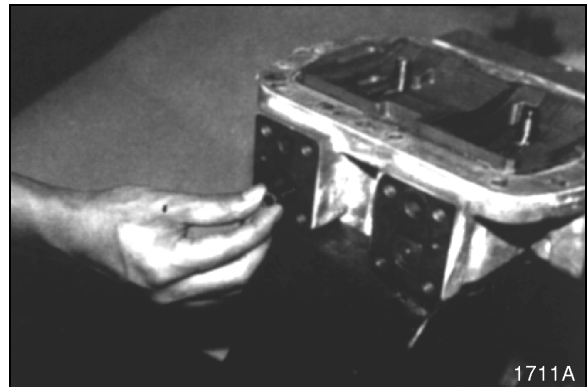

Figure 117
13. Install shim, using same thickness shim removed during disassembly. See Figure 117.